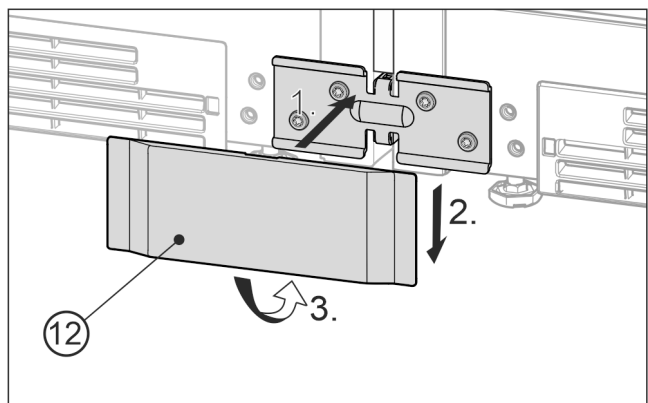

Fig. 25 Example illustration
- ▶ Place the bottom cover *Fig. 25 (12)* onto the bracket from the front *Fig. 25 (1)*, slide it down *Fig. 25 (2)* and snap it in at the bottom *Fig. 25 (3)*.